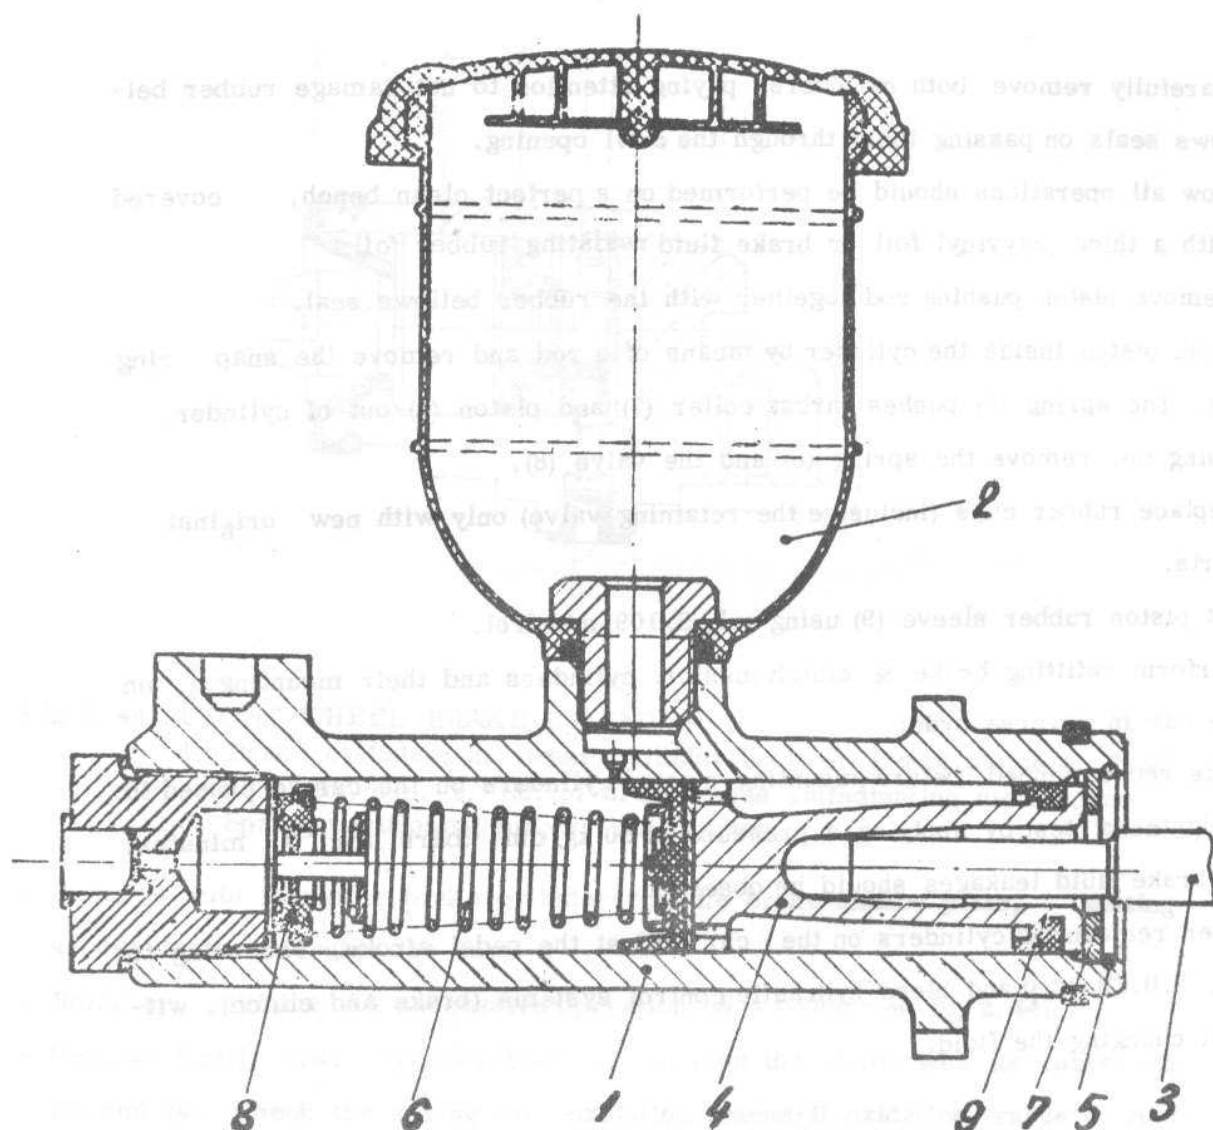

Fig.2.43. BRAKE MASTER CYLINDER
#### OP. 2.1.35.05.0 CHANGING PISTON CUPS OF BRAKE & CLUTCH MASTER CYLINDER (see fig.2.43 )
- Disconnect master cylinder from the brake control pedal by loosening the counter nut and then by unscrewing completely the piston pushing rod (3) (see fig.2.43).